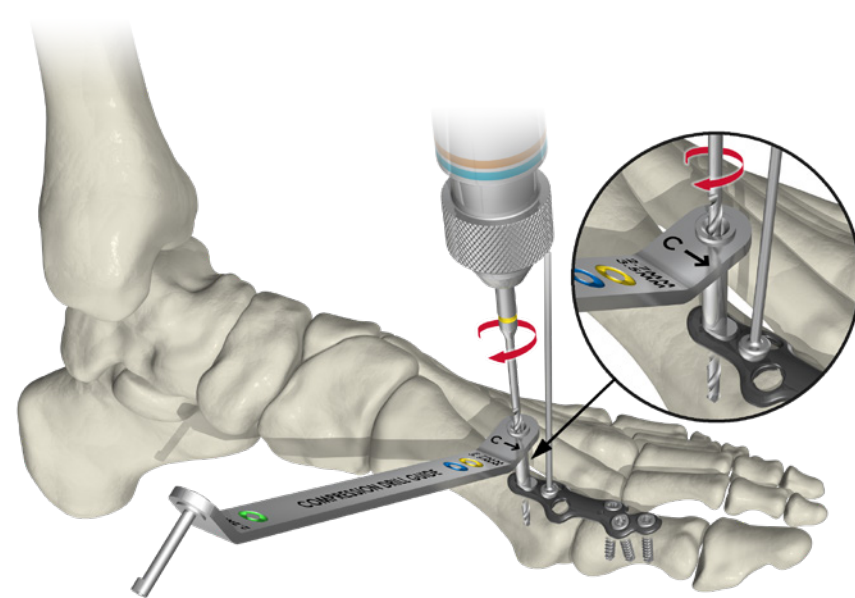

FIGURE 5
- If dynamic compression is desired, place the appropriate diameter compression drill guide in the compression hole of the plate. Point arrow on the drill guide towards the direction of the desired compression (**FIGURE 5**).